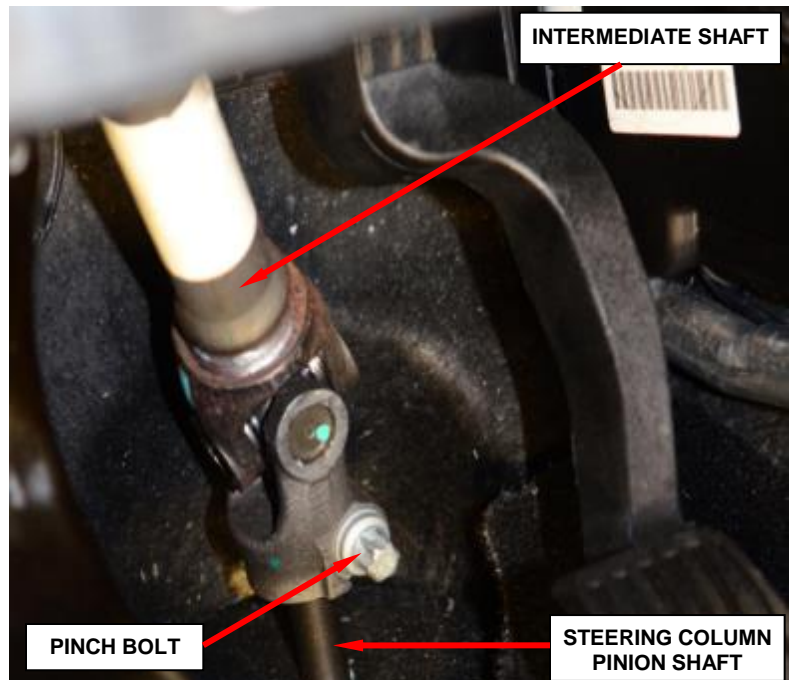

Figure 21 – Intermediate Shaft Pinch Bolt
j. Remove and **discard** the intermediate shaft pinch bolt and separate the intermediate shaft at the base of the column from the steering gear pinion shaft. **Discard the pinch bolt; it is not to be reused** (Figure 21).